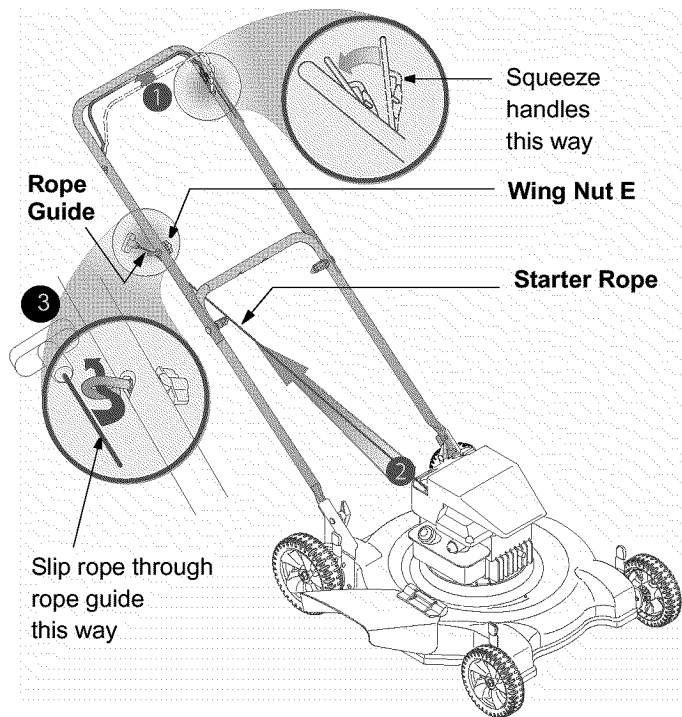

Figure 4
1. Insert rope guide into the hole on the upper handle indicated in Figure 4. Secure with wing nut E, but do not tighten.
2. Hold the blade control handle against the upper handle (marked 1 in Figure 4) and pull the starter rope out of the engine (marked 2 in Figure 4).
3. Release the blade control handle. Slip the starter rope into the rope guide (marked 3 in Figure 4).
4. Tighten the wing nut E. See Figure 4.